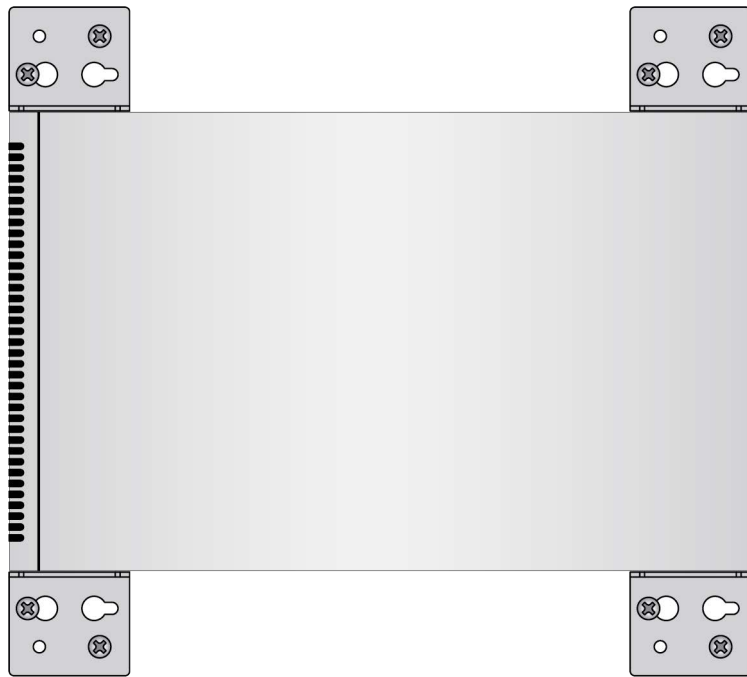

Figure 53. Wall Mounting of Switch, Brackets, and Screws (Top View)
8. Have another person hold the switch at the selected wall location while you secure it to the wall using the appropriate screws into the same keyhole of each bracket. Refer to Figure 53 on page 83.
12. When the steps are completed. The wall mounting should look as shown in Figure 53.